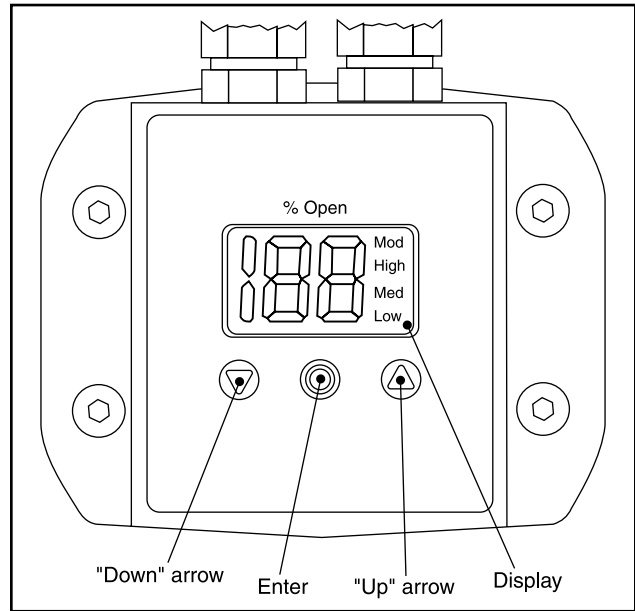

Figure 16
The setting of parameters is managed by means of the integrated ICAD MMI (Figures 16 and 17) and consists of:
- "Down" arrow push button (Figure 16)
- "Up" arrow push button (Figure 16)
- Enter push button (Figure 16)
- To exit from the Parameter list and return to the display of Opening Degree (OD), keep the push button activated for 2 seconds.
- Display (Figure 16)
- Displays the function status by means of text (Figure 16).
If an alarm has been detected the ICAD display (Figure 16) will alternate between showing Actual alarm and present Opening Degree.
5. When the display on ICAD (Figure 16) is alternating between showing: **CA** and **A1** the factory resetting is complete.